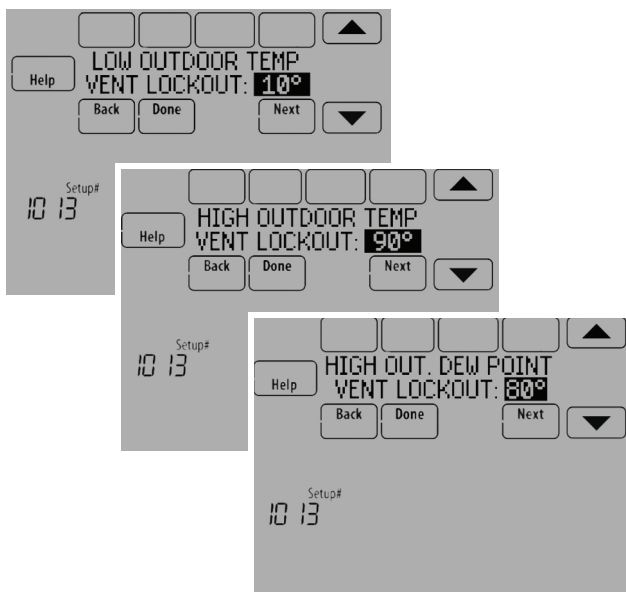

Fig. 165.
- Select the Outdoor Condition Lockouts. See Fig. 165. See "Ventilation – Outdoor Condition Lockouts (ISU 1013)" on page 67 for more information.